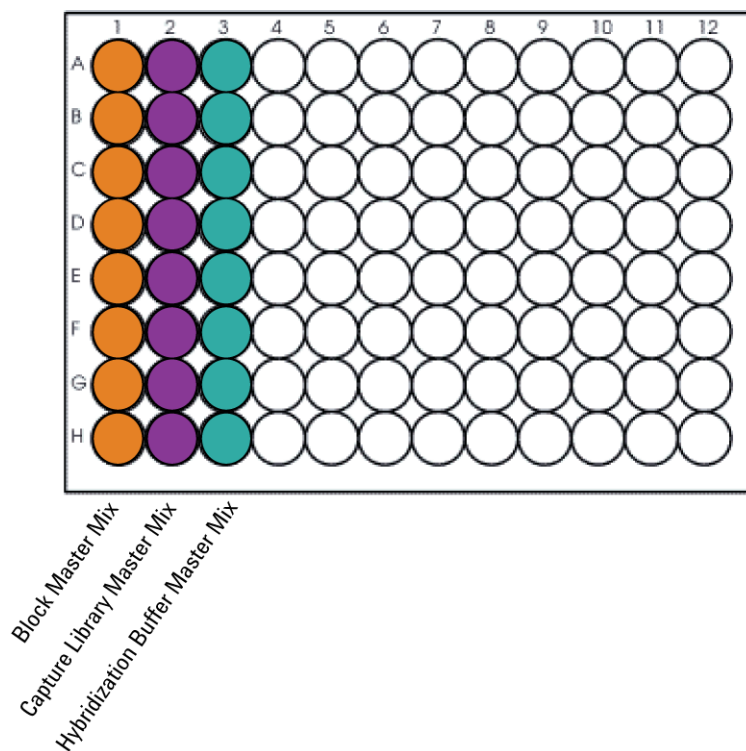

Figure 11 Configuration of the master mix source plate for SureSelectHybridization_v1.0.pro.
- 9 In a Nunc DeepWell plate, prepare the master mix source plate containing the master mixes prepared in step 5 to step 7 at room temperature. Add the volumes indicated in Table 51 of each master mix to each well of the indicated column of the Nunc DeepWell plate. When using multiple Capture Libraries in a run, add each Capture Library Master Mix to the appropriate row(s) of the Nunc DeepWell plate. The final configuration of the master mix source plate is shown in Figure 11.